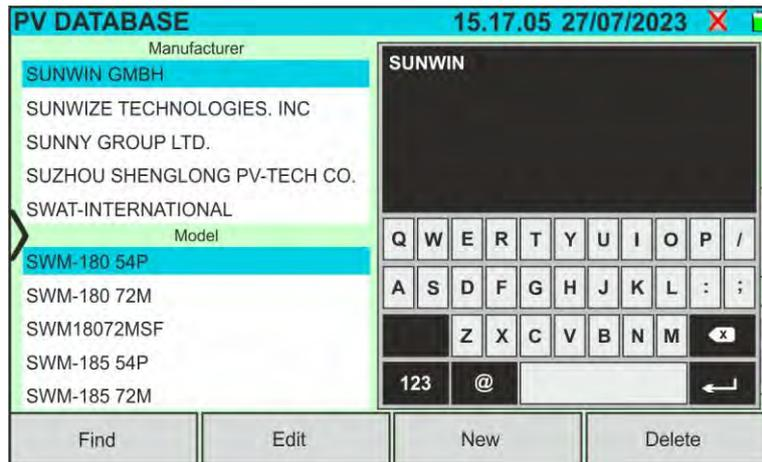

Fig. 31: Search by manufacturer
- Use the alphanumeric virtual keyboard to enter the desired manufacturer's name or a keyword and tap on (ENTER) on the virtual keyboard to confirm. The searched manufacturer (if present) will be highlighted on the display (see Fig. 31)